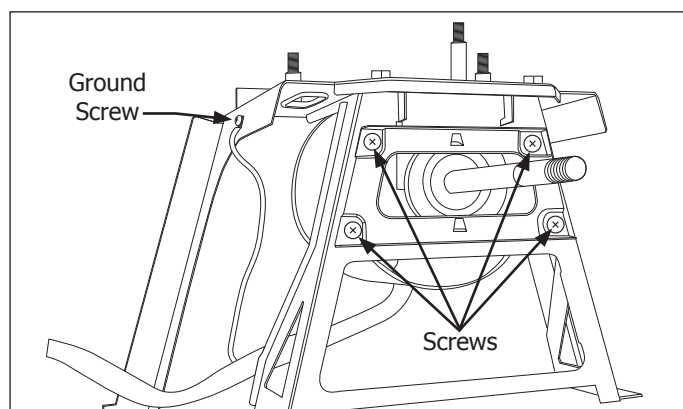

Figure 4-86.
16. Extract screw securing ground screw to condenser mounting bracket. (See Figure 4-86)
17. Extract the four screws securing the condenser fan motor to rear of mounting bracket assembly. Pull condenser fan motor from unit base. (See Figure 4-86)